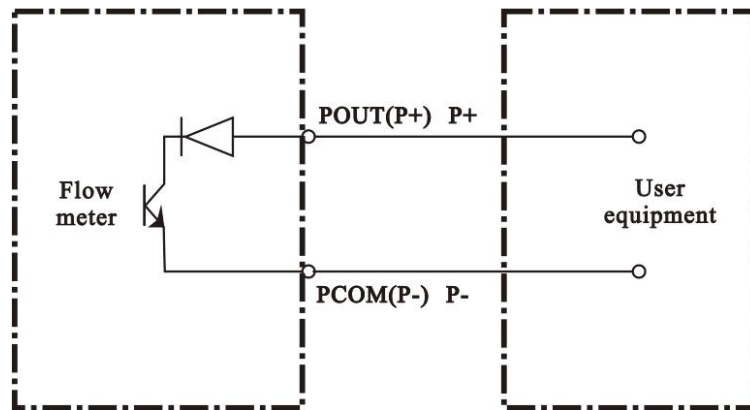

Figure 11
7.5.3 Output mode 3: gate 0C active output (Figure 11)